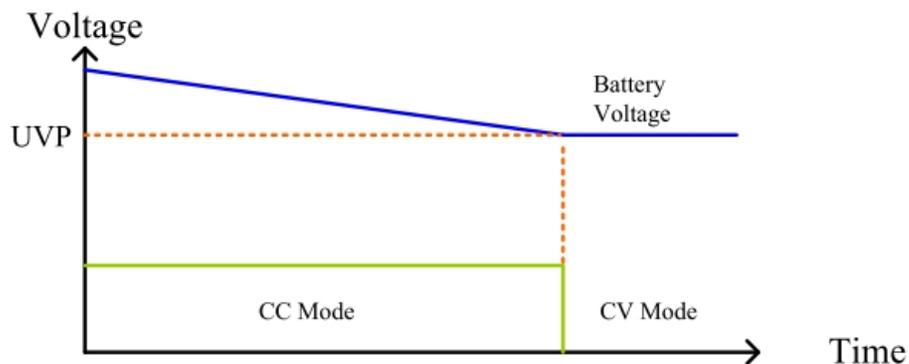

Fig 5-17 TYPE 2 Battery Discharge Figure
When testing loads on of Constant current (CC) mode, battery voltage is less than UVP Setting values, Constant current (CC) mode auto change to Constant voltage (CV) mode as Fig 5-17 shows.